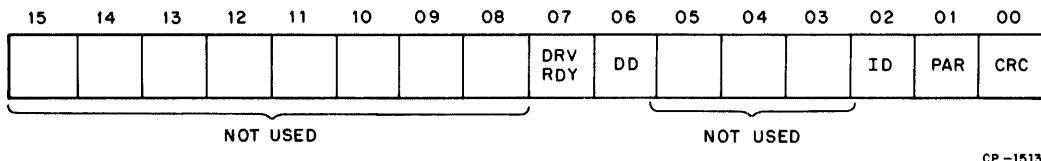

Figure 3-5 RXES Format (RX11)
**3.2.2.4 RXES – RX Error and Status (Figure 3-5)** – This register contains the current error and status conditions of the drive selected by bit 4 (Unit Select) of the RXCS. This read-only register can be addressed only under the protocol of the function in progress (Paragraph 3.3). The RXES is located in the RXDB upon completion of a function.